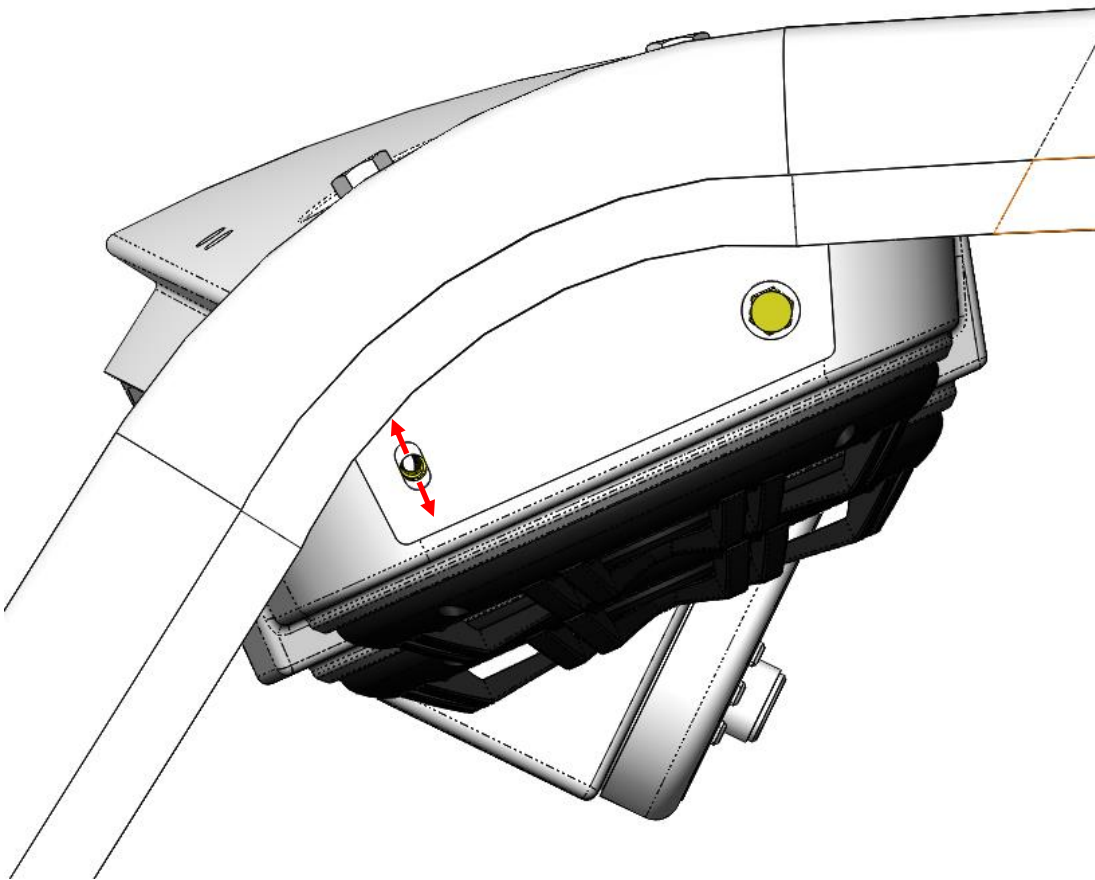

Figure 12: Up-down positioning of the Audio Mini.
8. Tighten the 4 mounting bracket bolts after achieving the desired up-down position relative to the visor. Slots in the brackets allow up-down movement. See Figure 12.